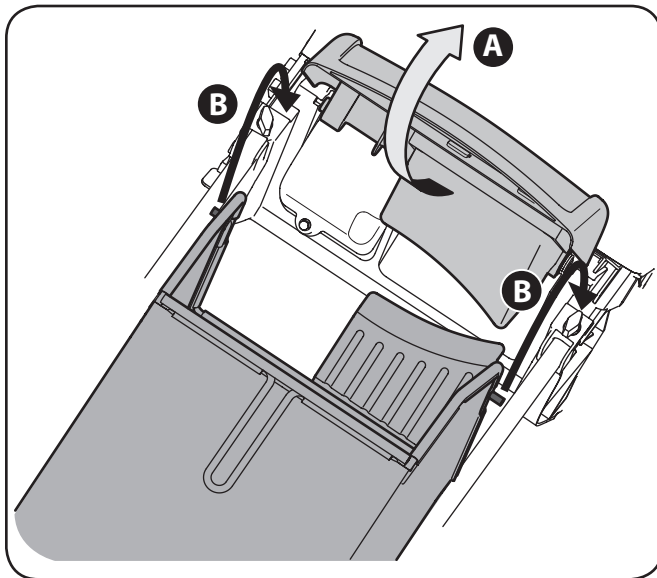

Figure 3-8
- b. Place grass catcher into the slots in the handle brackets as shown in Figure 3-8. Let go of discharge door so that it rests on the grass catcher.